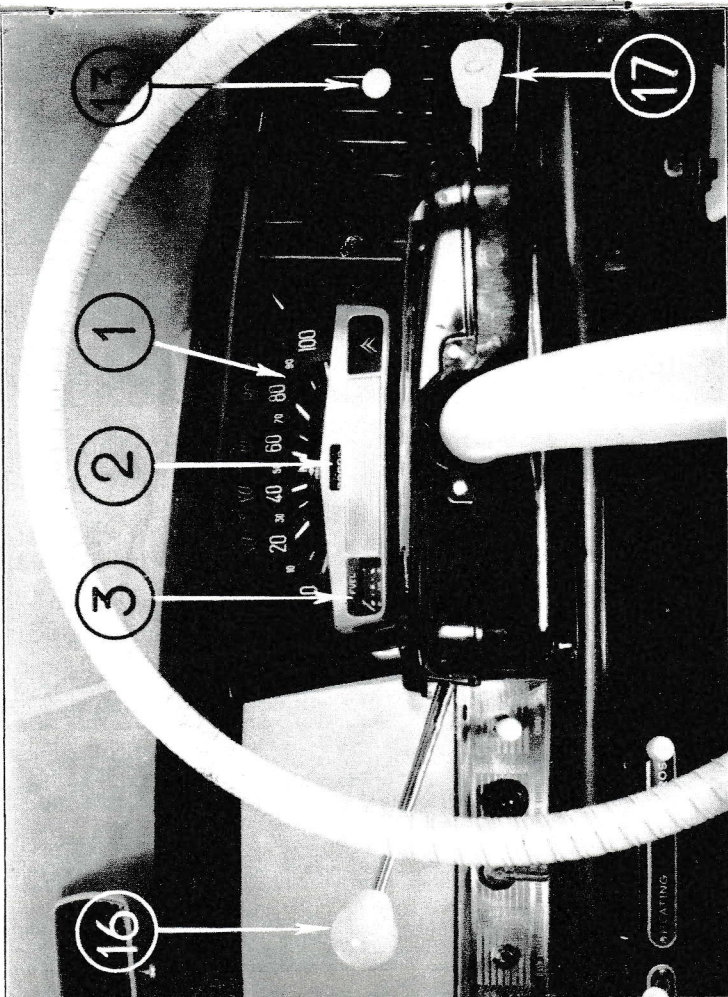

Figure 7 — Instrument board
## Dashboard (fig. 7 and 15).
1. Speedometer (fig. 7).
2. Total mileage recorder (fig. 7).
3. Fuel level (fig. 7).
16. Gear change lever (see page 35) (fig. 7 and 15).
17. Horn and light switch (single control) (fig. 7 and 15).